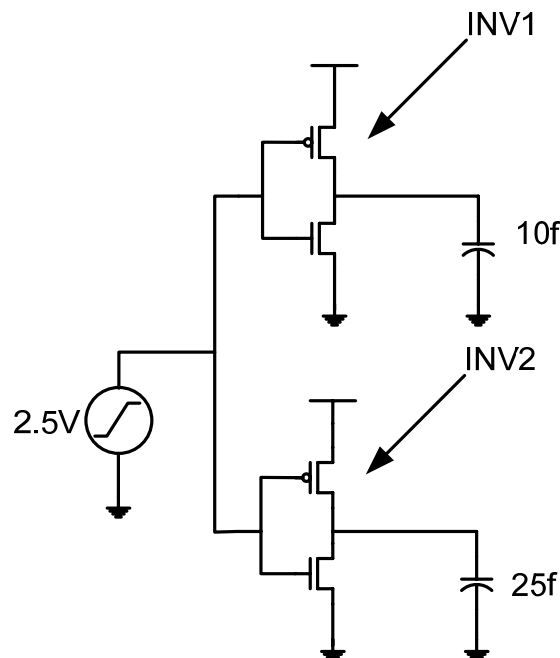

Figure 3 : Two identical inverters driving different loads.
6.0 – Consider the two situations of an inverter driving different loads shown in Figure 3. Which inverter experiences higher crowbar current upon a switching event at the input.